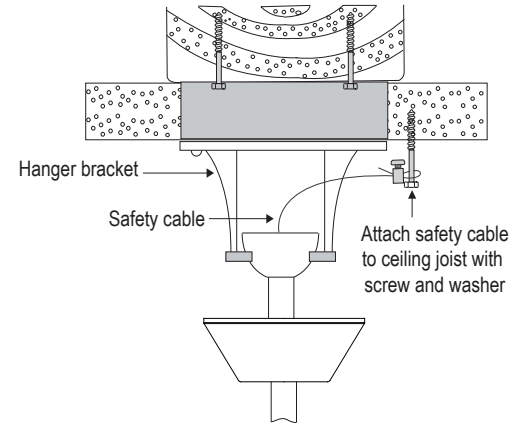

Fig. 10
Step 1. Attach the provided wood screw to the ceiling joist next to the mounting bracket. (Fig. 10)